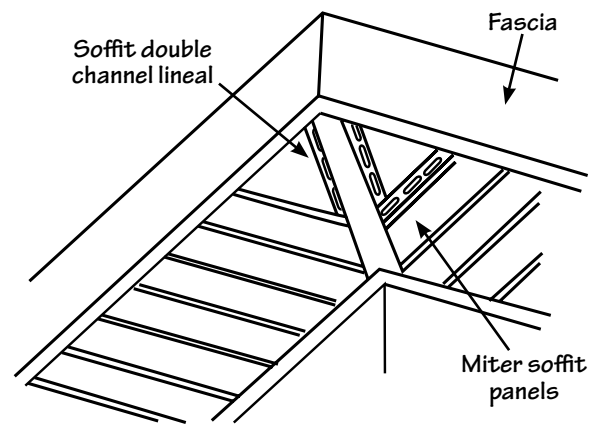

Figure 70.
4. To turn a corner, measure from the channel at the wall corner to the channel at the corner of the fascia board (Fig. 70). Subtract 1/4" (6.4mm) for expansion. Cut and install soffit double channel lineal or back-to-back J-channel. If necessary, install nailing strips to provide backing for the lineal. Miter cut the corner soffit panels and install as described in Step 3.